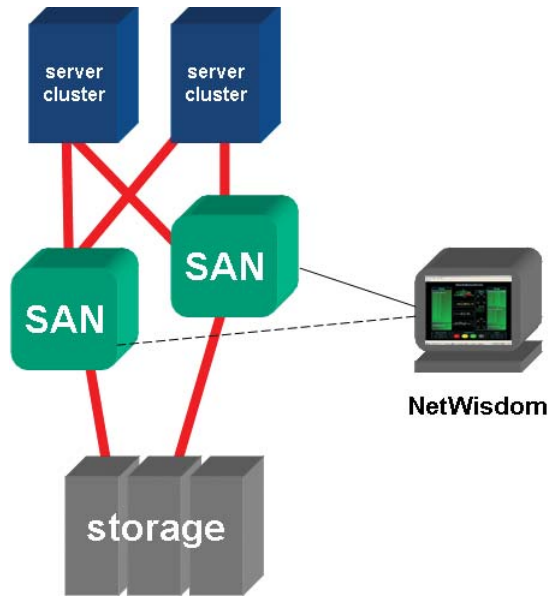

Figure 9: Fabric-only Monitoring
For the greatest reach with least monitoring infrastructure investment, NetWisdom has the ability to collect performance and fault information from SAN fabric switches through a standard internet protocol (IP) interface (see figure 9). The performance metrics for each switch port includes throughput (MB/s), percentage of bandwidth utilized, and fabric fault counters including CRC errors, dropped packets, loss of signal, loss of synchronization, link resets, and link failures. This implementation allows the furthest reach with the minimum amount of equipment.